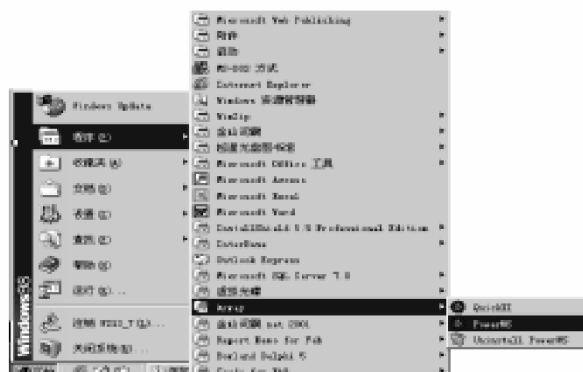
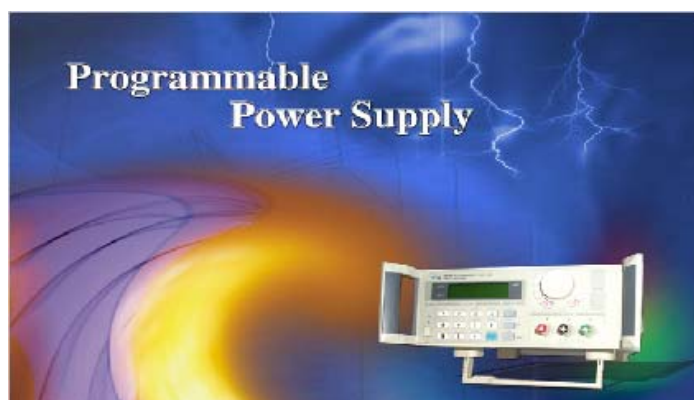

Fig. 3-8 The System Start Interface
Fig. 3-9. The initial start up window
- 3.2.1 In Fig. 3-8, click the mouse on “Start | Program | Array” and then “PowerMS”. The initial program start up window will be displayed in fig 3.9
- 3.2.2 The initial start up window is displayed as shown in Fig. 3-9.
To uninstall the powerMS program, click on the  Uninstall PowerMS icon in the MS Power program folder. See fig 3-8 for details. Note: The Main control window must be closed before the uninstall can be performed.